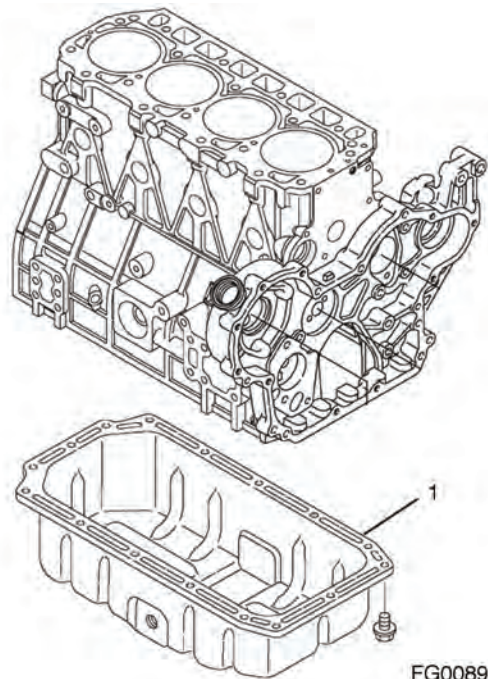

Figure 171
2. Remove the oil pan (1, Figure 171).